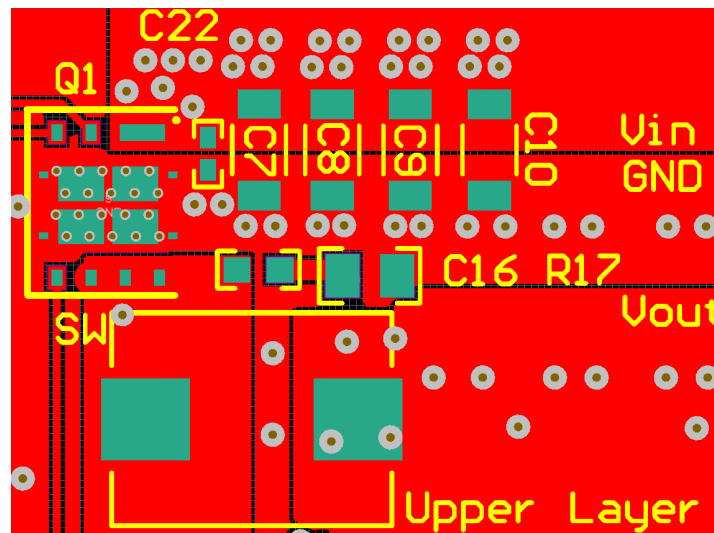
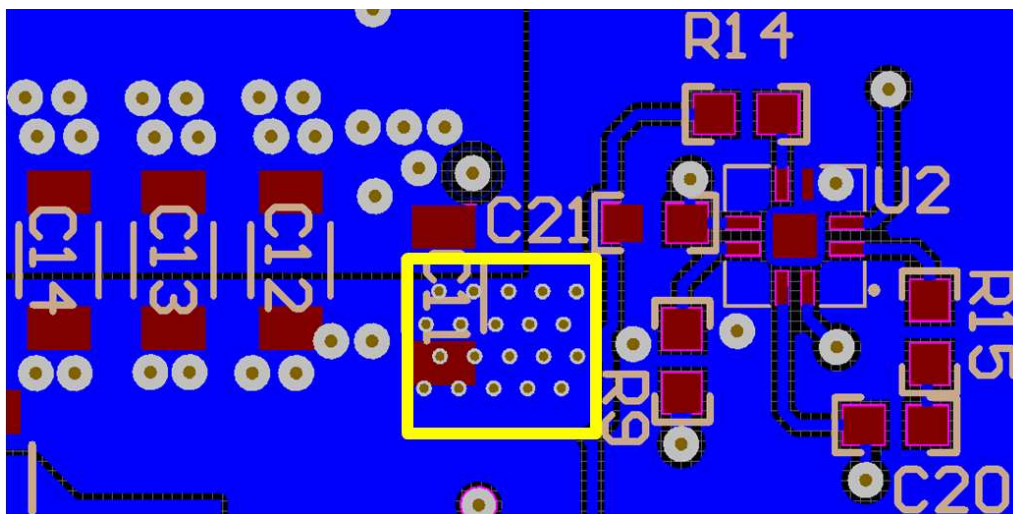

Figure 33. Recommended PCB Layout (Top Down View)
Figure 34. Recommended PCB Layout (Bottom View) (2)
- The placement of the input capacitors relative to the power block's VIN and PGND pins should have the highest priority during the component placement routine. It is critical to minimize these node lengths. As such, ceramic input capacitors need to be placed as close as possible to the VIN and PGND pins (see Figure 33 and Figure 34). It is recommended that one 3.3-nF (or similar), 0402, 50-V ceramic capacitor be placed on the top side of the board as close as possible to VIN and PGND pins. In addition, a minimum of 40 μF of bulk ceramic capacitance should be placed as close as possible to the power block in a design. For high-density design, some of these ceramic capacitors can be placed on the bottom layer of PCB with appropriate number of vias interconnecting both layers.
- The switching node of the output inductor should be placed relatively close to the power block VSW pins. Minimizing the node length between these two components will reduce the PCB conduction losses and actually reduce the switching noise level. In the event the switch node waveform exhibits ringing that reaches undesirable levels, the use of a boost resistor or RC snubber can be an effective way to easily reduce the peak ring level. The recommended boost resistor value will range between 1.0 Ω to 4.7 Ω depending on the output characteristics of driver IC used in conjunction with the power block. The RC snubber values can range from 0.5 Ω to 2.2 Ω for the R and 330 pF to 2200 pF for the C. Please refer to Snubber Circuits: Theory, Design and Application (SLUP100) for more details on how to properly tune the RC snubber values. The RC snubber should be placed as close as possible to the VSW node and PGND (see Figure 33 and Figure 34).(1)
(1) Keong W. Kam, David Pommerenke, "EMI Analysis Methods for Synchronous Buck Converter EMI Root Cause Analysis", University of Missouri – Rolla
- Use the smallest drill size allowed in your design. The examples in Figure 33 and Figure 34 use vias with a 10-mil drill hole and a 16-mil capture pad.
(2) The yellow box on Figure 34 signifies an approximate location of the power block on the upper layer.